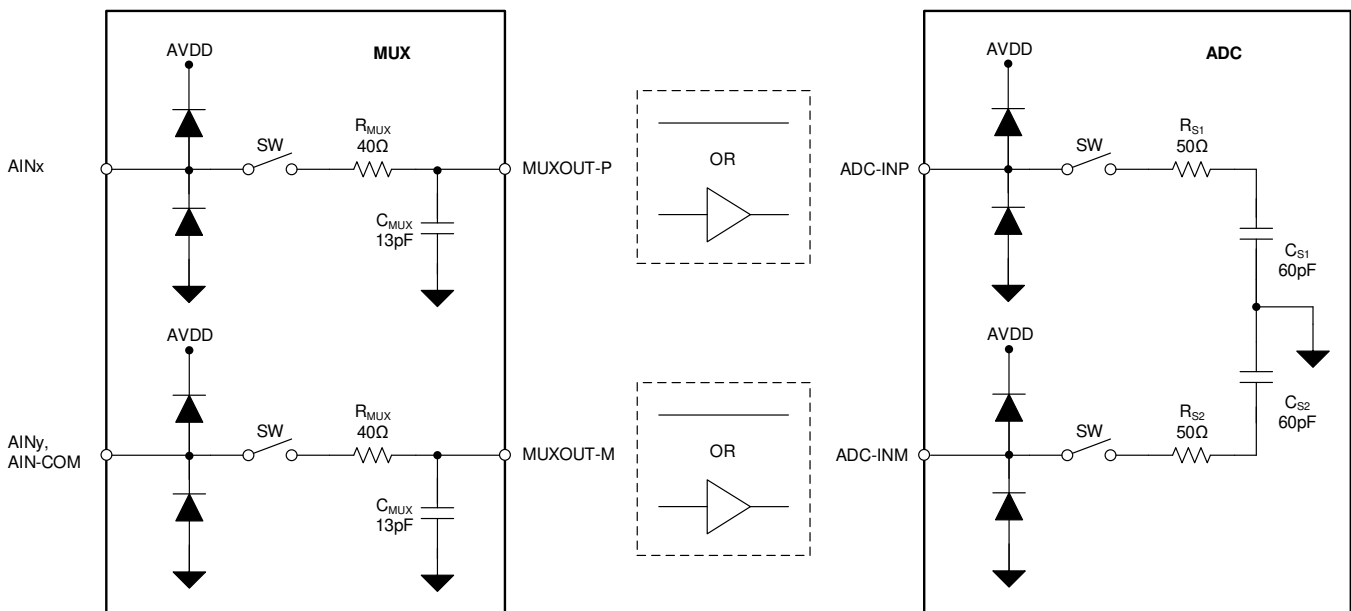

图 30. Input Sampling Stage Equivalent Circuit
Figure 30 shows the small-signal equivalent circuit of the sample-and-hold circuit. Each sampling switch is represented by resistance (R_{S1} and R_{S2} , typically $50\ \Omega$) in series with an ideal switch (SW). The sampling capacitors, C_{S1} and C_{S2} , are typically $60\ \text{pF}$.